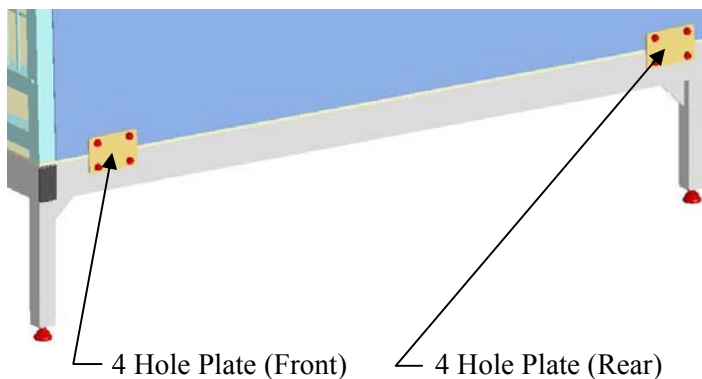
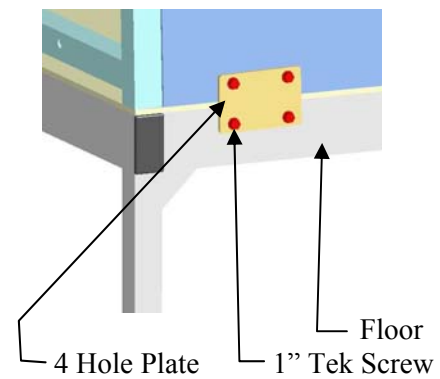

Figure 23
Figure 23A
2. After assembling the kennel system, locate the Four Hole Mounting Plate. Mount the first Four Hole Mounting Plate over the side of the Floor and the Side Panel on the front side of the kennel with (4) 1" Tek Screws as shown in **(Figure 23A)**. Then mount the next Four Hole Plate on the rear side of the kennel with (4) 1" Tek Screws as shown in **(Figure 23)**. Repeat the same instructions on the other side of the kennel system.